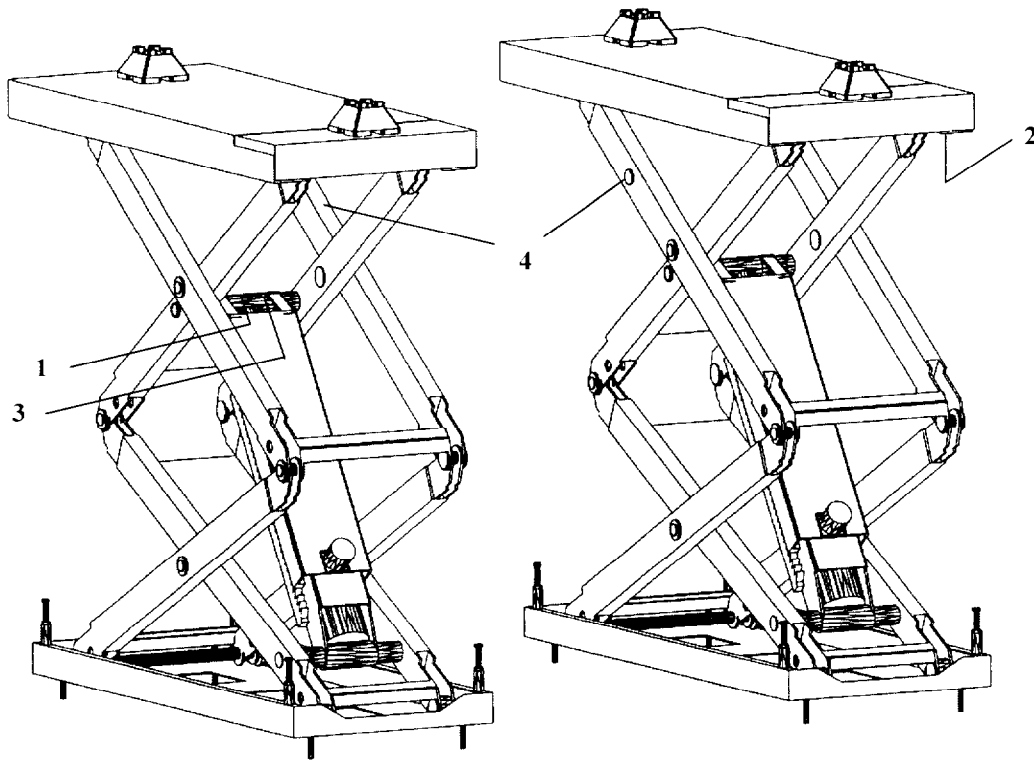

Fig. 8: Designation of the limit switches
1. Align the runways parallel to each other and in the drive-on direction (**Fig. 8**).
The lift comes equipped with various preset limit switches for monitoring the safety functions or final positions. The control functions of the limit switches is described below. **Fig. 8** shows the location and description of the limit switches on the lift. The connection diagram for the control and safety switches is illustrated in the Index (**Section 2**).